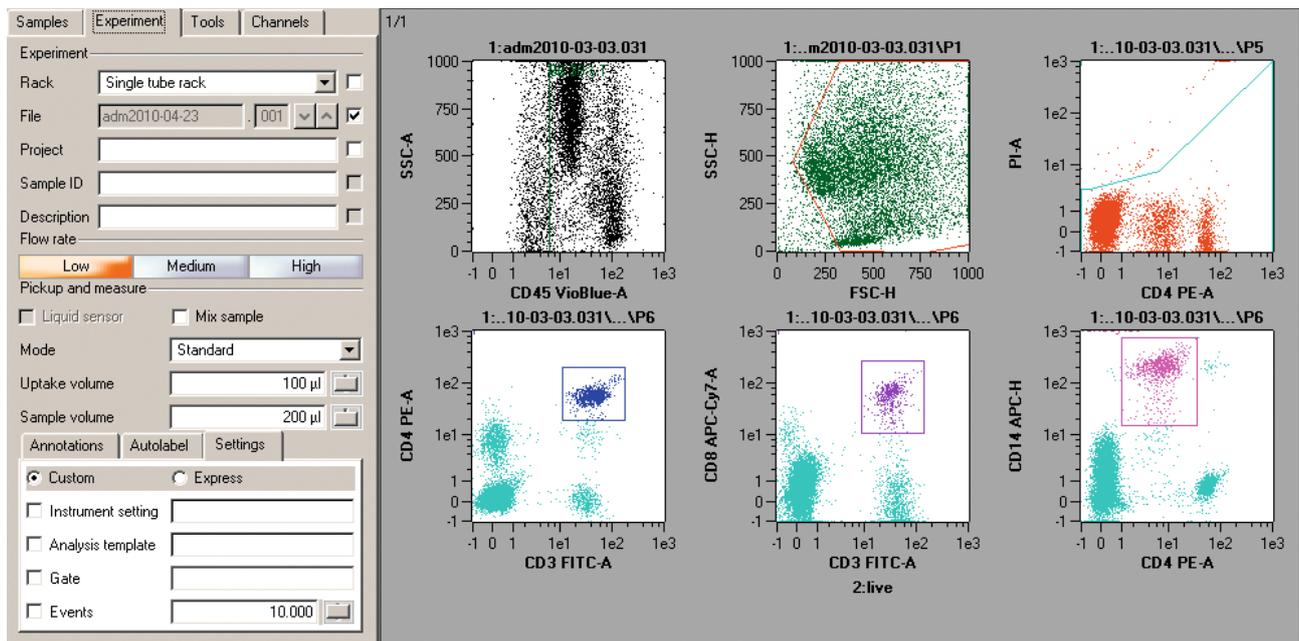

Figure 1: Gating strategy for CD4 and CD8 T cells and monocytes when performing whole blood analysis without red blood cell lysis on the MACSQuant Analyzer.
21. Set a gate **P1** on the CD45+ cells (leukocytes) as assessed by VioBlue staining (figure 1, plot A).
22. From P1 gated cells set a gate **P2** (intact cells) on cells by excluding debris in the dotplot FSC vs. SSC (figure 1, plot B).
23. From P2 gated cells set a P3 gate (live cells) by excluding dead cells in CD4-PE versus PI dotplot (figure 1, plot C).
24. Analyze CD4+ and CD8+ T cells as well as CD14+ monocytes by applying live leukocyte gate (P3) to further dotplots (figure 1, plots D–F).